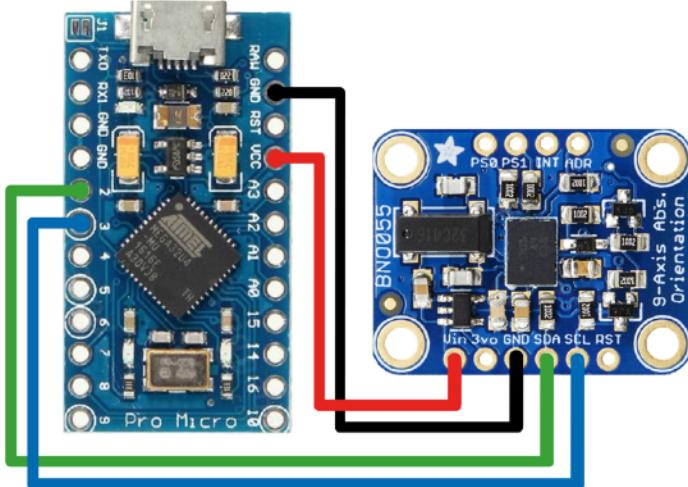

Figure 4: Arrangement and cabling of the electrical components
A third-hand tool helps you to clamp the components during soldering. Tin the stripped wires with solder. Solder the IMU sensor (BNO055) to the Arduino Pro Micro according to the circuit diagram (Figure 4). In case you require further instructions how to solder correctly, you might want to follow the links below:
**Tip:** Use the color-coding shown below (Figure 4) to avoid confusion.